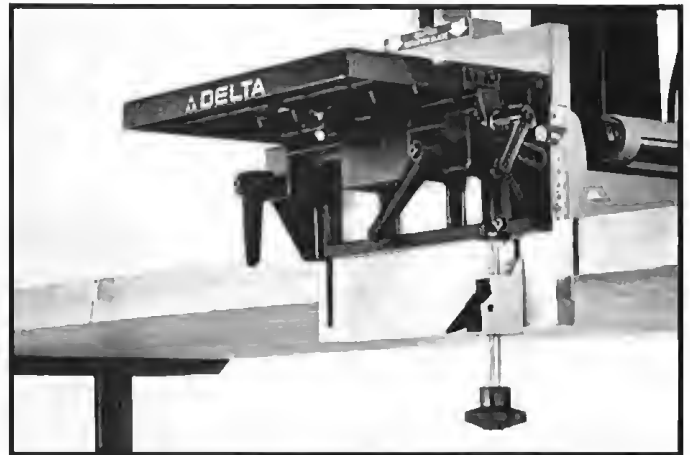

Fig. 8
3. Position machine so it rests over edge of the supporting surface, as shown in Fig. 8.